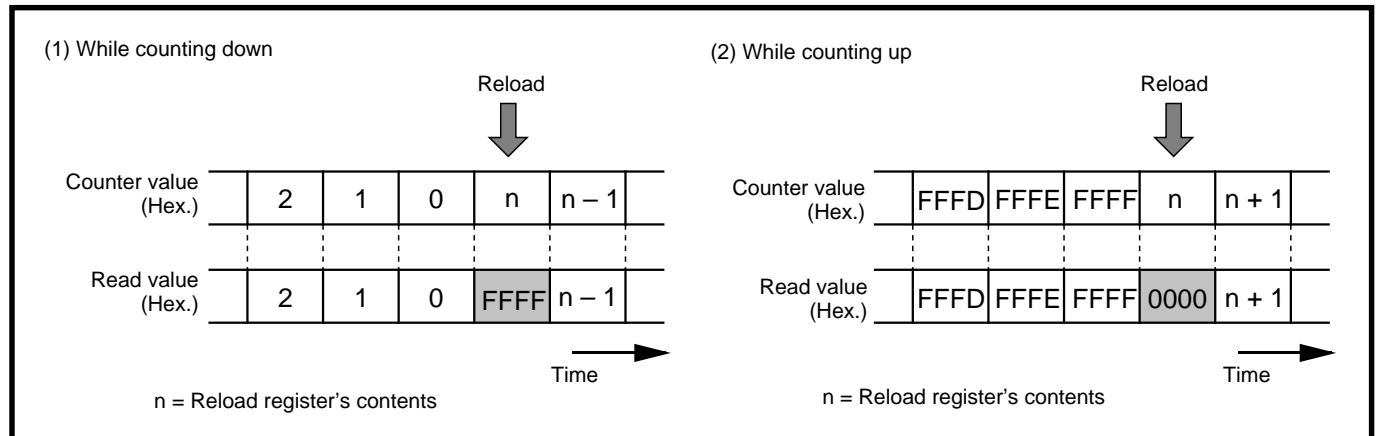

Fig. 6.4.11 Timer Ai register read out
1. While counting is in progress, by reading out the timer Ai register, the counter value can be read at an arbitrary timing. However, when reading is performed at the reload timing shown in Figure 6.4.11, value “FFFF₁₆” is read out at an underflow and value “0000₁₆” is read out at an overflow. If reading is performed in the period from when a value is set into the timer Ai register with the counter stopped until the counter starts counting, the set value is correctly read out.